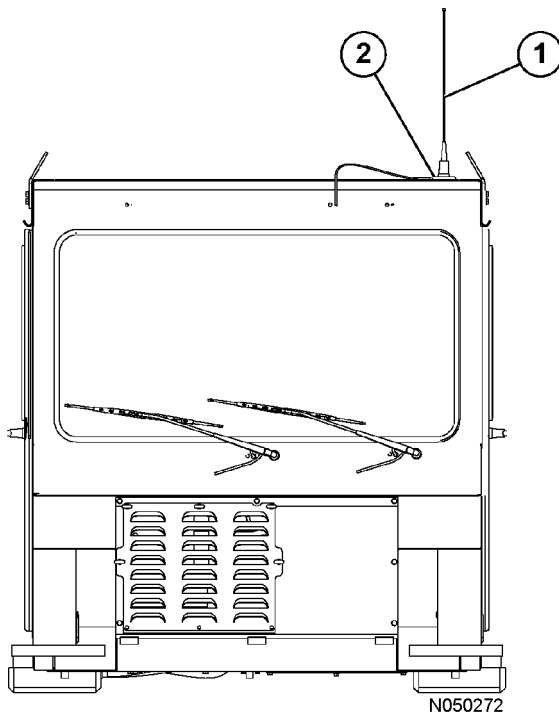

FIGURE 11-3. ORBCOMM ANTENNA
Communication to the satellite (using Orbcomm) occurs automatically, but only sends critical data items. Orbcomm controller (1, Figure 11-1) is located inside the auxiliary control cabinet. Orbcomm antenna (1, Figure 11-3) is mounted on the front left corner of the cab by magnetic mount (2).